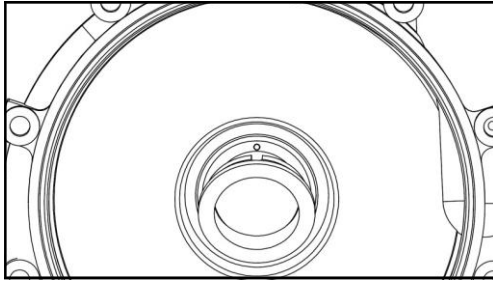

Figure 12
3. Install the stationary seal into the casing. Make sure the notch in the stationary seal fits over the seal pin in the bottom of the casing's seal bore, Figure 12.